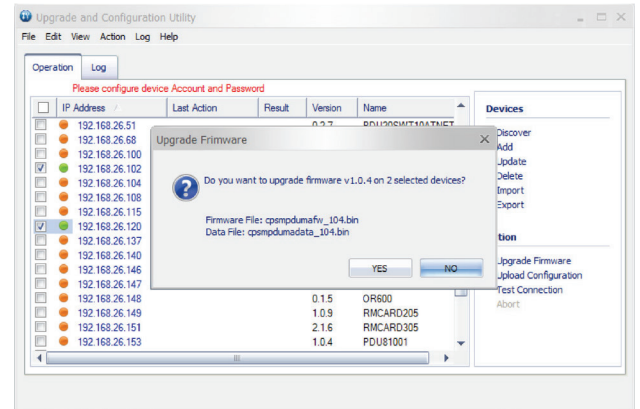

Figure 5
8. Click **OK** in the **Upgrade Firmware** confirmation window (Figure 5).